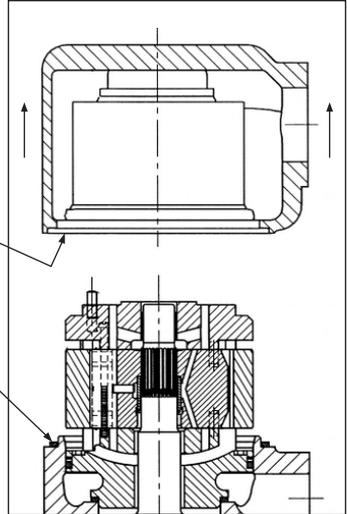

Fig. 3
3. Remove the housing (Fig. 3).